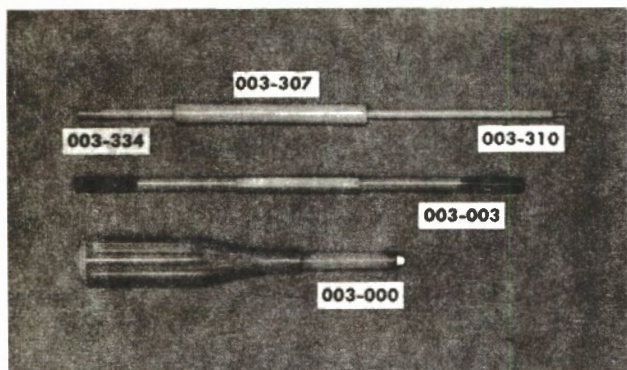

Fig. 6-1. Low-capacitance calibration tools, Tektronix part numbers indicated.
22. Low-capacitance calibration tools. See Fig. 6-1.